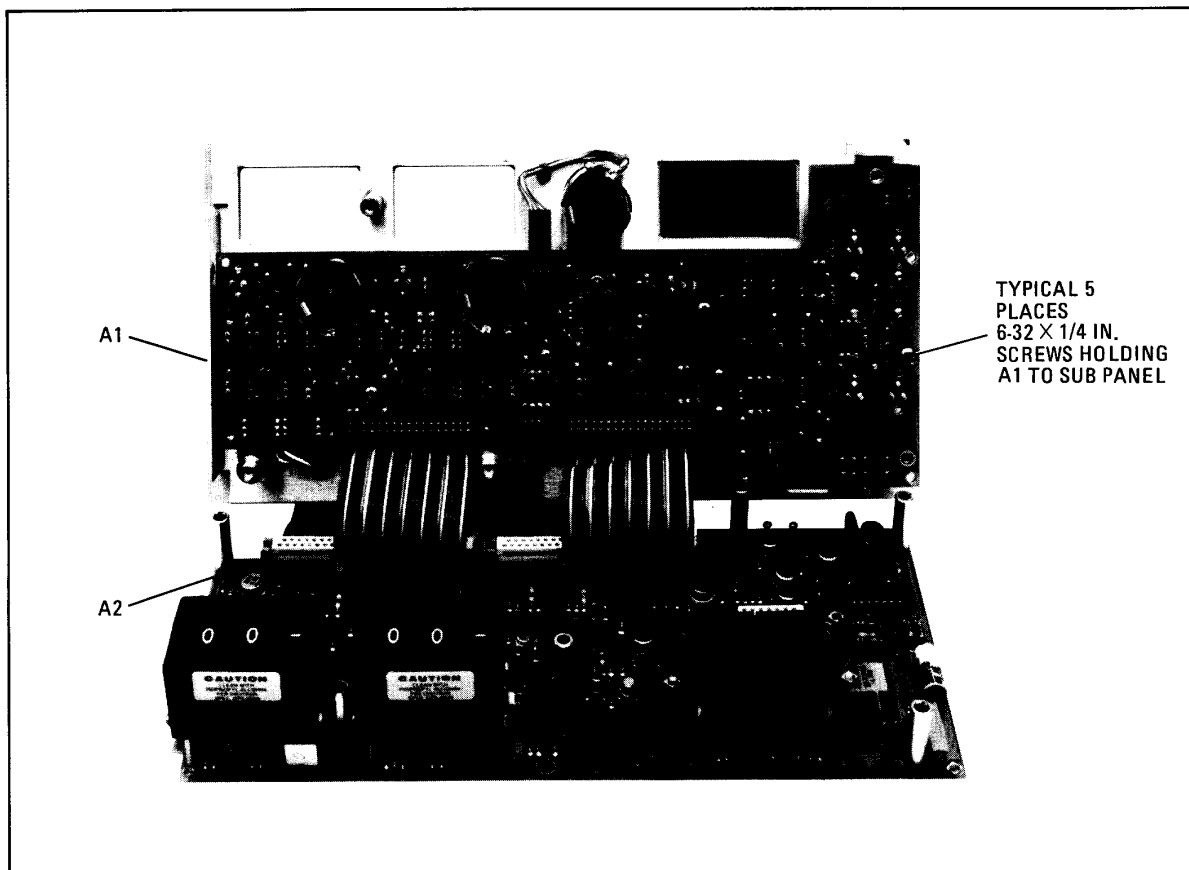

Figure 8-114. Front Panel Assembly With A1 and A2 Separated
4. Separate A2 Analog Processor from A1 Front Panel board as shown in Figure 8-114. (A1 and A2 will still be connected by the ribbon cables.)
5. Remove five 6-32 x 1-1/4 Pozi-Driv screws securing A1 Front Panel to sub-panel. (See Figure 8-114.)
4. Install A1 Front Panel Board Assembly on front panel sub-panel. Install five 6-32 x 1/4 inch Pozi-Drive screws to secure A1 board to front sub-panel. (See Figure 8-114.)